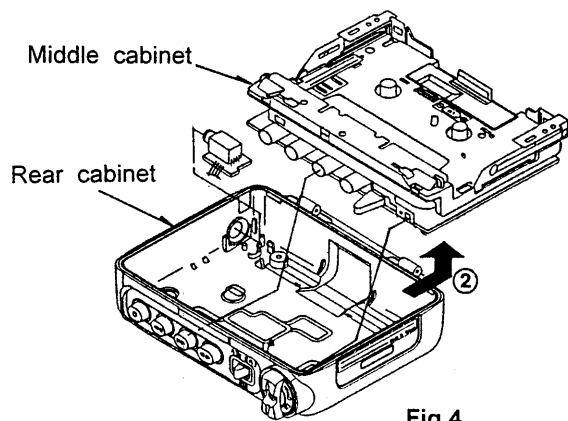

Fig.4
- Remove the rear cabinet in the direction of arrow ②. (See Fig.4).